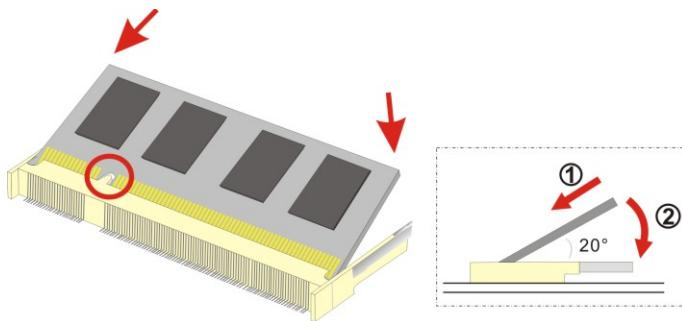

Figure 4-1: SO-DIMM Installation
To install an SO-DIMM, please follow the steps below and refer to Figure 4-1.
**Step 3: Insert the SO-DIMM.** Push the memory in at a 20° angle. (See Figure 4-1)
**Step 4: Seat the SO-DIMM.** Gently push downwards and the arms clip into place. (See Figure 4-1)